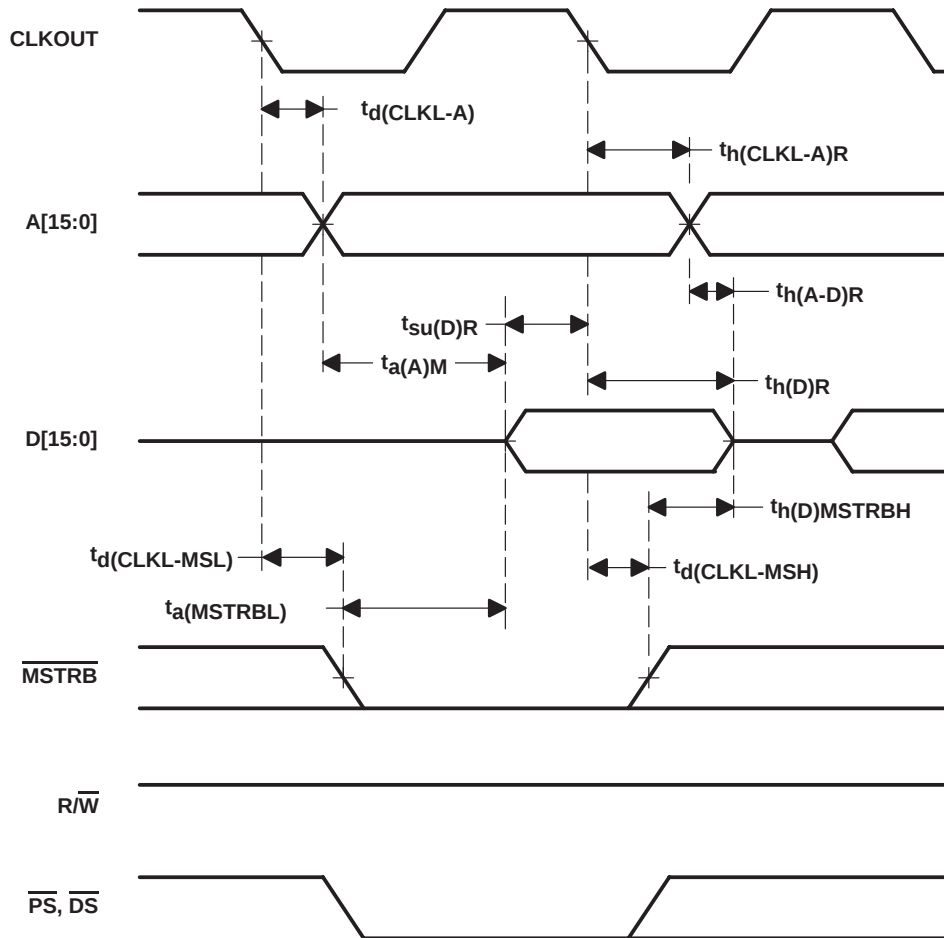

Figure 5. Memory Read ( $\overline{\text{MSTRB}} = 0$ )
**switching characteristics over recommended operating conditions for a memory read ( $\overline{\text{MSTRB}} = 0$ )†‡ (see Figure 5)**
timing requirements for a memory read ( $\overline{\text{MSTRB}} = 0$ ) [ $H = 0.5 t_{c(CO)}$ ]†‡ (see Figure 5)